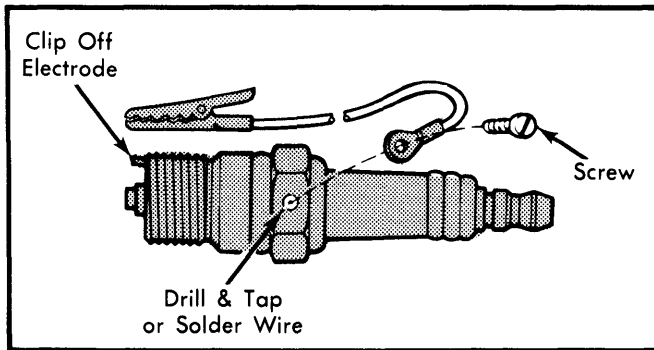

Fig. 4 Modified Spark Plug Tester
1) Connect a scope with clamp-on pick-ups to coil high voltage wire, according to manufacturer's specifications. If a scope is not available, remove coil wire from distributor and insert a modified spark plug into coil wire. See Fig. 4.